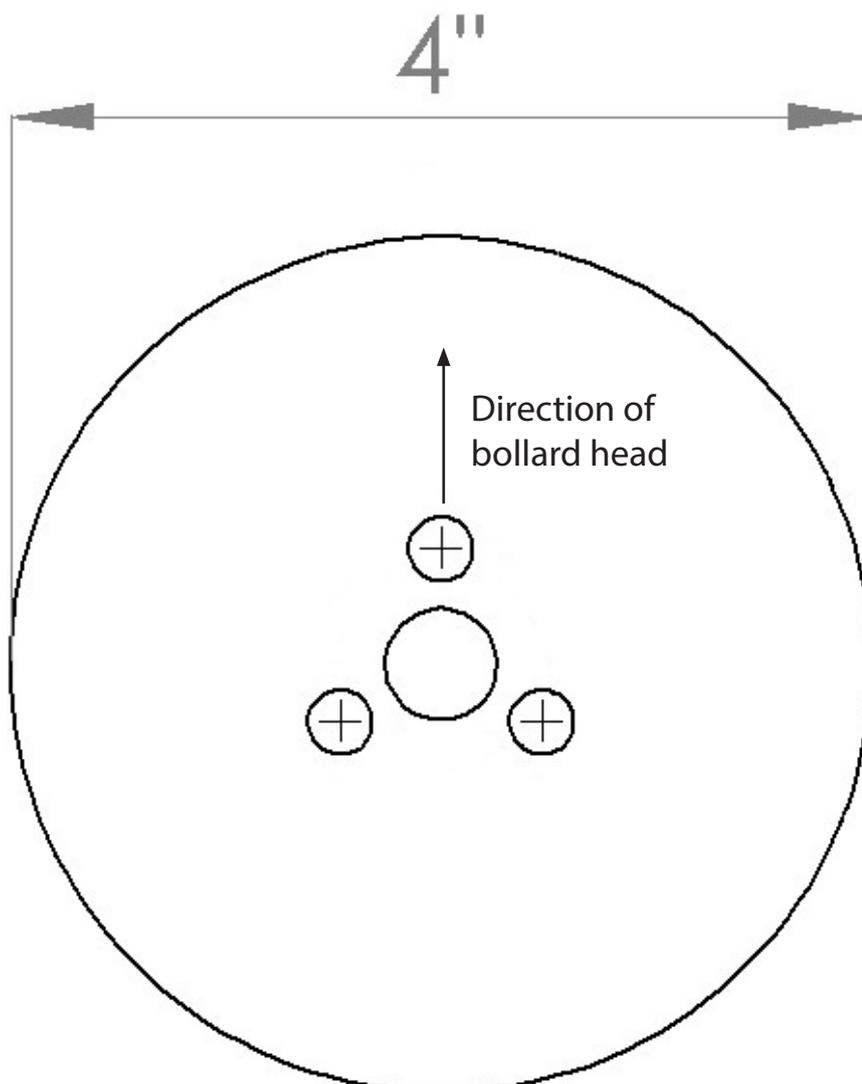

Fig. 1
2. Install a 12VAC output magnetic transformer in an accessible location, and run low voltage outdoor power cable (A) from the transformer to the desired bollard location in accordance with local codes. To avoid excessive voltage drop, you must use power cable with appropriate wire gauge for the distance and load of your system. The REALS bollards can accept an input voltage from 10 to 15VAC.
3. **For Concrete Mounting:** Using the provided temporary template (Fig. 1), cast the anchor bolts (B) and low voltage outdoor power cable (A) into a concrete footing (C). Arrange the anchor bolts so that they are vertical and form an arrow pointing in the desired direction of the fixture (D), with at least 1/2" of threaded and no unthreaded length exposed above the concrete. Arrange the power cable so that it is in the center of the template, with at least 6" of cable exposed above the concrete.
4. **For Concrete Mounting:** Once the concrete (C) has fully cured, remove and discard the template.
5. **For Concrete Mounting:** Place mounting plate (E) over the anchor bolts (B) and power cable (A). Secure with mounting nuts (F).
**For Wood Mounting:** Place mounting plate (E) over the power cable (A) and secure with lag screws (not included).
6. Make appropriate electrical connections using outdoor wire nuts (G):
- c. Carefully place the conductors and connections into the post (H).
7. Place the post (H) over the mounting plate (E). Secure with mounting screws (J).
8. Install the cap (K) to the top of the fixture (D). Secure with the cap screws (L) using the included Allen wrench (M).